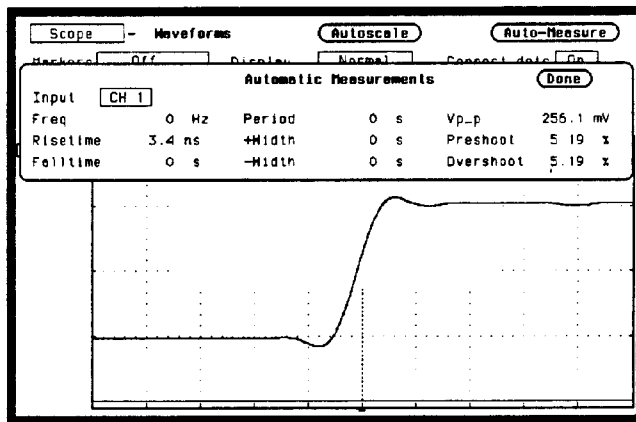

Figure 4-5. Waveforms Display Menu
12. Select **Auto-Measure** and verify the overshoot and rise time as shown in figure 4-5. Use the SELECT key to toggle the **Auto-Measure** display between CH 1 and CH 2 to update the information.